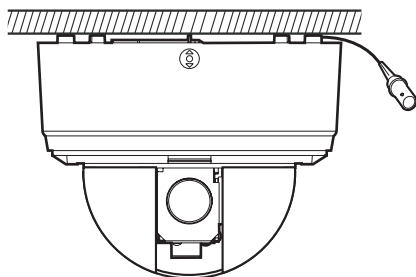

Figure 5. Wiring Attached to Ceiling
- c. Drill a hole in the ceiling for wiring. Note that you do not have to run wiring through the ceiling; you can fasten the wires to the ceiling and then run the wires through the air gap between the ceiling and the surface mount ring as shown in Figure 5.